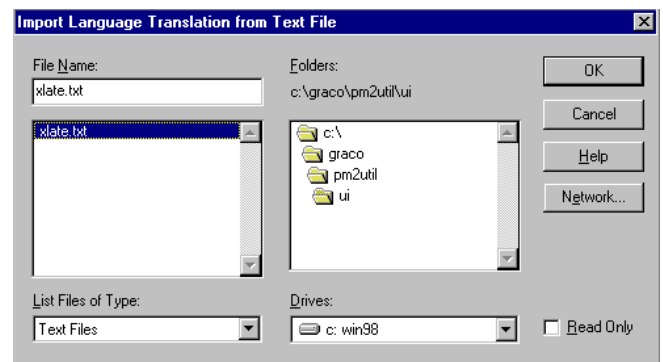

Fig. 13.56
- e. Select the desired text file, and press the OK button in the dialog box to update the database with your changes. Press the Cancel button to close the dialog box without making changes. See Fig. 13.56.